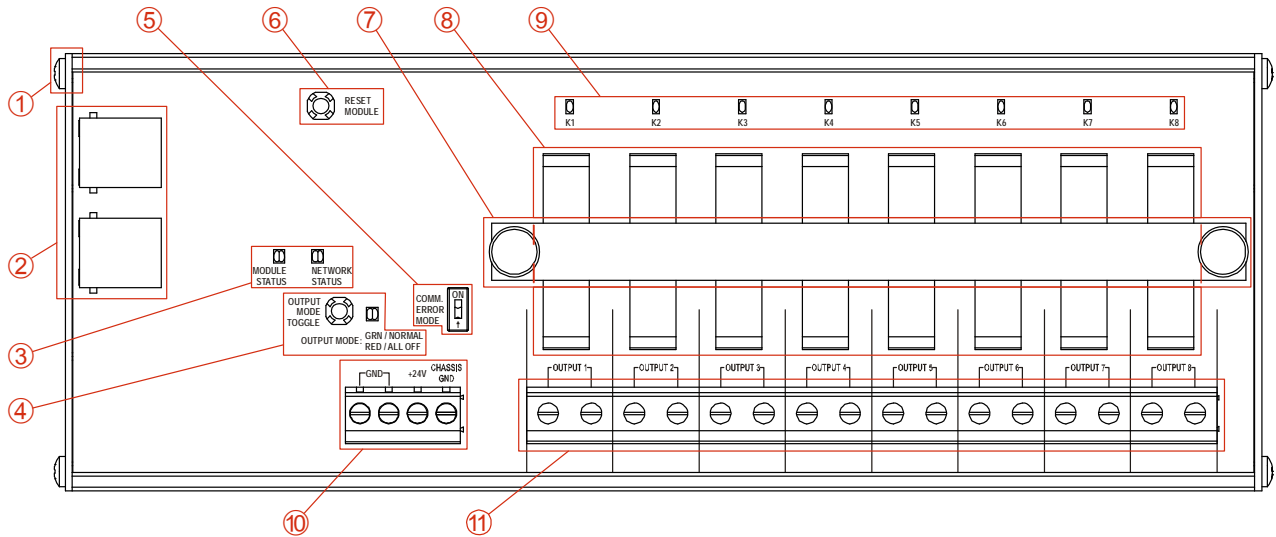

Figure R1.1 RBE2-8 Layout
Figure R1.1 shows the layout of the RBE2-8 Networked Relay Board.
The Output Mode LED is a bi-color red/green LED. For its location on the relay board, see item ④ in figure R1.1 on page 8.
Each output channel has a yellow status LED that shows the state of the relay control signal. For their locations on the relay board, see item ⑨ in figure R1.1 on page 8.
There is a Link Activity LED on each of the two RJ45 connectors. For their locations on the relay board, see item ② in figure R1.1 on page 8. They are amber LEDs.
The Module Status LED is a bi-color red/green LED. For its location on the relay board, see item ③ in figure R1.1 on page 8. The unit will blink the Module Status LED green during initialization. After initialization, the state of the LED depends on the state of the network adapter and the configured protocol.
The Network Status LED is a bi-color red/green LED. For its location on the relay board, see item ③ in figure R1.1 on page 8. The state of the LED depends on the state of the network adapter on the protocol the RBE2-8 is configured to for.